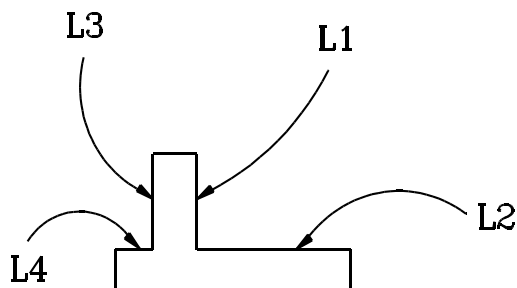

Figure 3
8. Click on on lines L1 and L2, then on lines L3 and L4. (See Figure 3.)